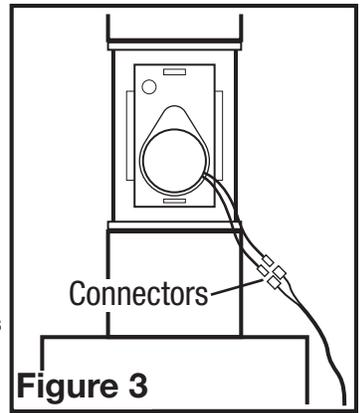

Figure 3
3. Run the lead wires from the transformer to the motorize damper. Make the electrical connections to the motorized damper by connecting the wires from the damper to the pre installed ends (Figure 3).